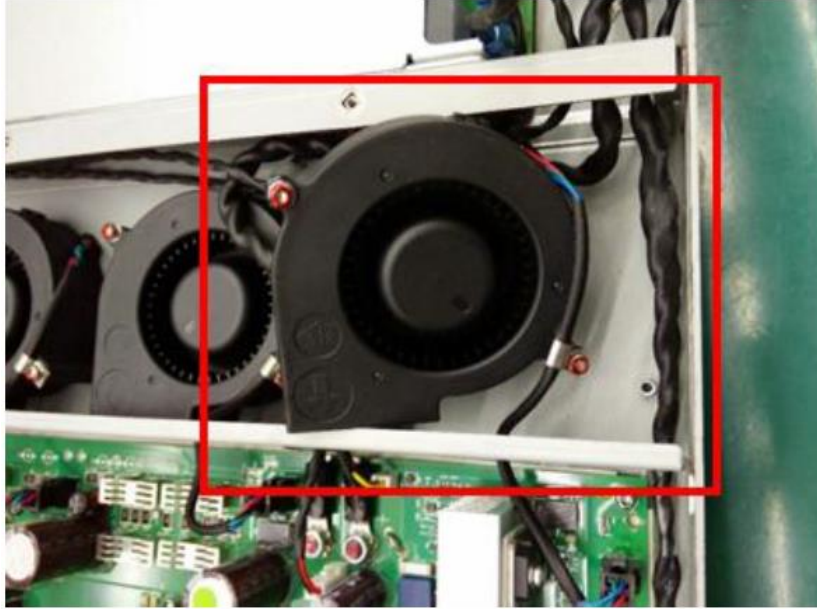

Figure 8
8. Unscrew the most right side fan as shown in Figure 8.